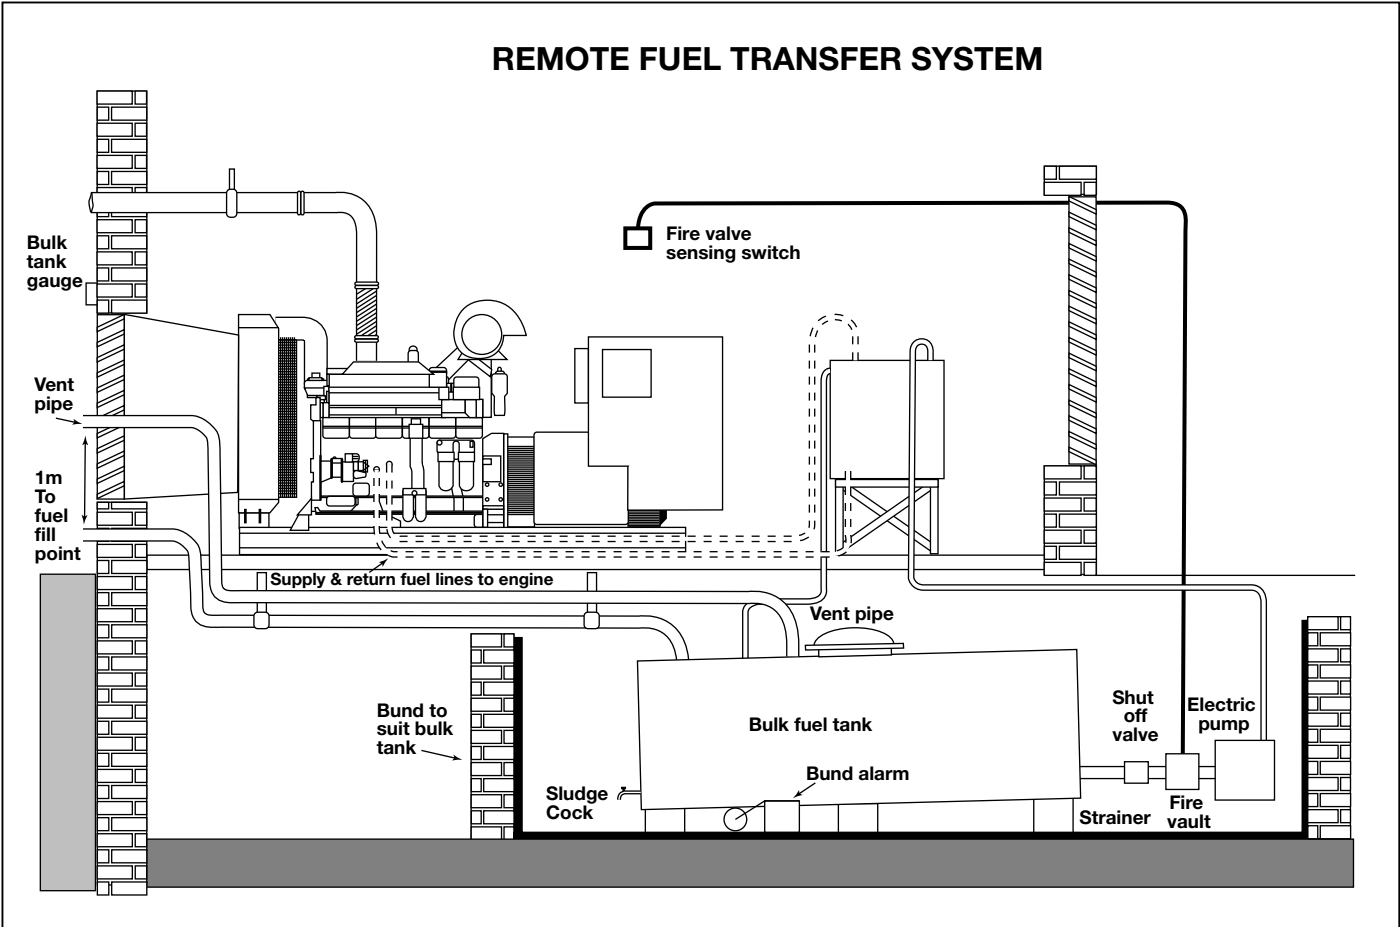

Fig. C5
1. An automatic duplex fuel transfer pump and primary filter system arranged to start the standby pump should the duty pump fail. The transfer pump(s) must be sized to cater for the total fuel required by the engine, i.e. fuel consumed and the spill return volumes (Fig. C5);